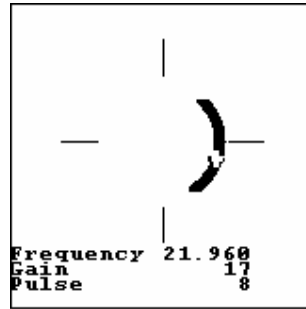

Fig. 26
- The Phase admissible impedance zone is arc shaped. Use Up, (Down) keys to increase (decrease) the zone clockwise and Right (Left) keys to increase (decrease) it counterclockwise (Fig. 26).